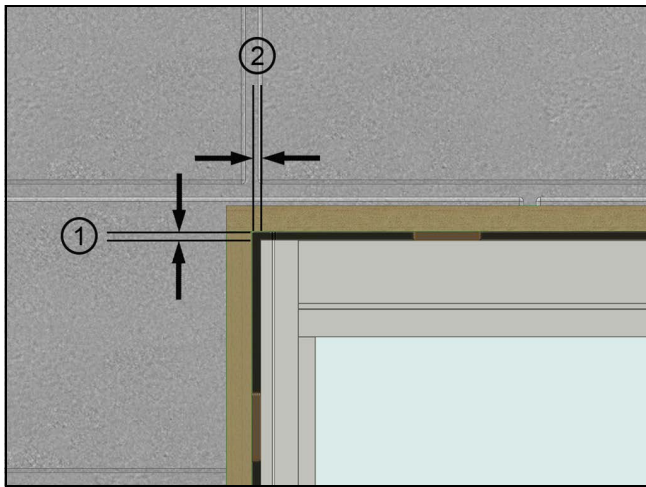

Figure 5
6. Masonry Openings (MO) for flanged windows should be 1" greater than outside frame (flange) measurement. The Rough Opening (RO), with or without a wood buck, should result in a $\frac{1}{2}$ " overall shim space, $\frac{1}{4}$ " per side. Size the Masonry Opening (MO) accordingly, based on the wood buck specifications. When framing a rough opening, ensure the sill plate is level and the opening is square, straight, and plumb. See Figure 5.